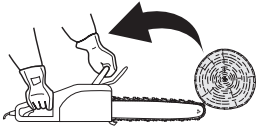

Fig. 24
Kickback may occur if the nose or tip of the guide bar touches an object, or if wood pinches the saw chain in the cut. In some cases, contact with the tip of the guide bar (4) may cause a lightning-fast reverse reaction, kicking the guide bar up and back toward the operator (Figs. 24 - 26).